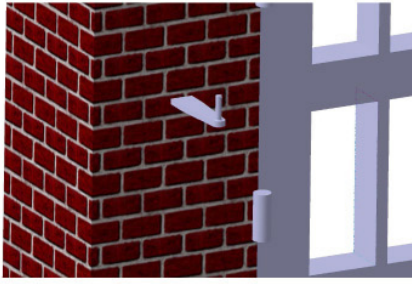
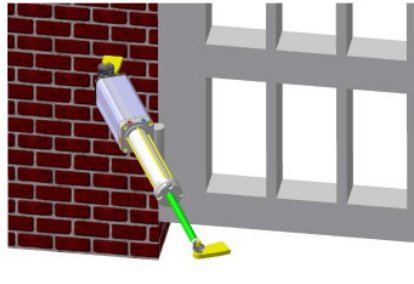
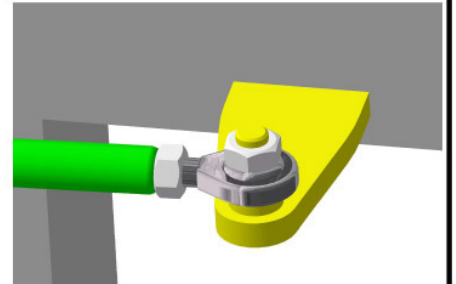

Fig.2
Fig.3
Fig.4
- 3) Shorten or lengthen the gate support according to the dimensions for C shown in the table on page 3. Connect the iS330 opener to the gate support, with the rod completely extended (**Fig.2 Page 5**) and with the swivel joint nut fully tightened (**Fig.3 Page 5**). Once this has been done use a spirit level (**Fig.4 Page 5**) to mark the position of the gate support on the gate. Dismantle the gate support and fix it to the gate using the markings previously made.
- 4) Mount the motor and unscrew the swivel joint nut three turns to ensure closure. Attach the security ring and the safety bolt supplied. (**Fig.3 Page 5**).